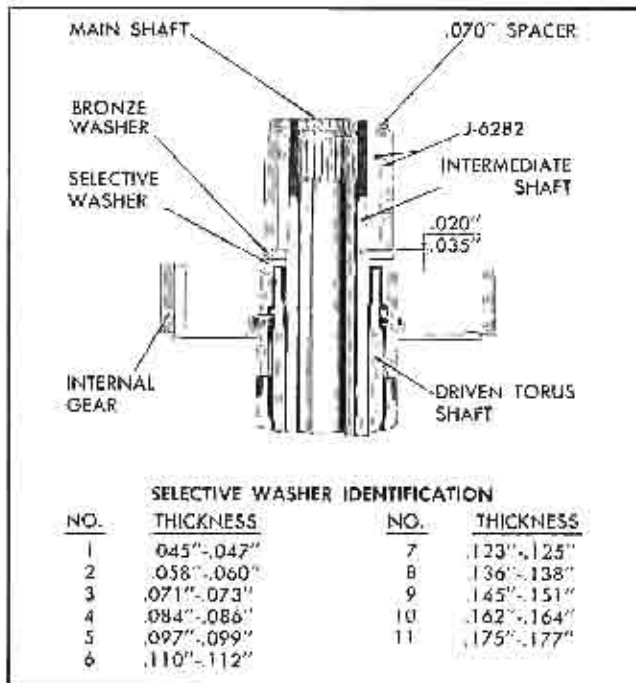

Fig. 164 Front Unit Selective Spacer Chart
10. Compare measurement found with feeler gauge with the chart in Fig. 164 to determine the correct selective spacer washer to use.